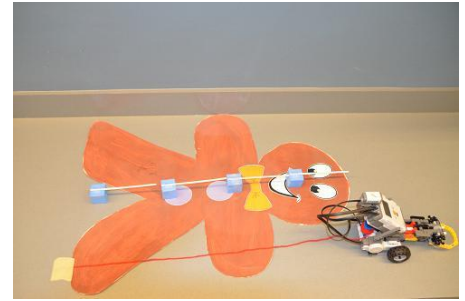

Figure 6
- Uses the robot to unwind string along the height of the **gingerbread man**. See Figure 6